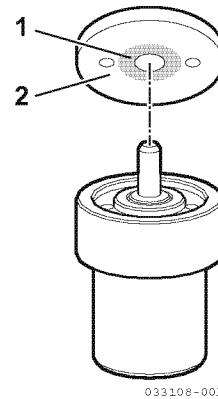

Figure 7-41
6. Inspect the sealing surfaces (**Figure 7-41, (2)**) between the valve stop spacer and nozzle body for nicks or scratches. Check the contact area between the valve stop spacer and the nozzle valve (**Figure 7-41, (1)**) for scoring or pitting. Use a magnifying glass to inspect.